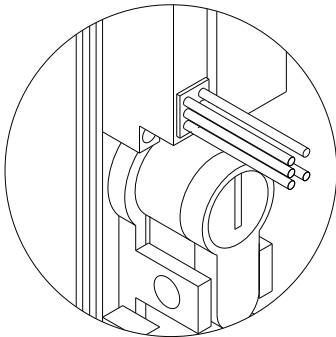

Fig. 2
7. Proceed to wiring (See Fig.2).